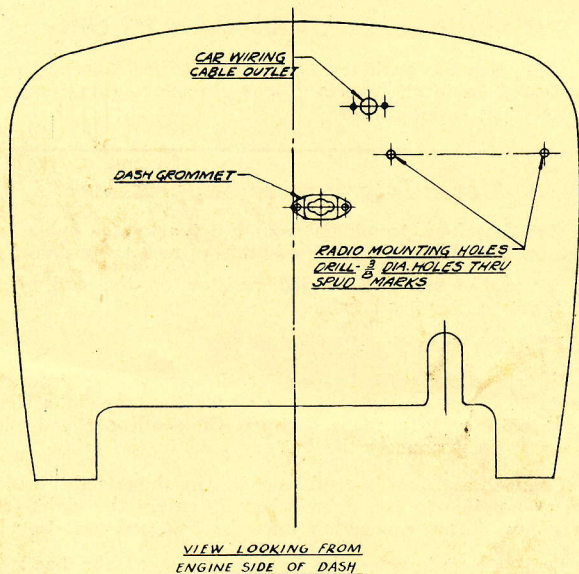

FIGURE 1
2. Drill two $\frac{3}{16}$ " holes in the dash. Refer to Figure 1 for the location of the center punch marks on the dash. After drilling, remove the paint from the dash for a distance of $\frac{3}{4}$ " around the holes to insure good ground contact.